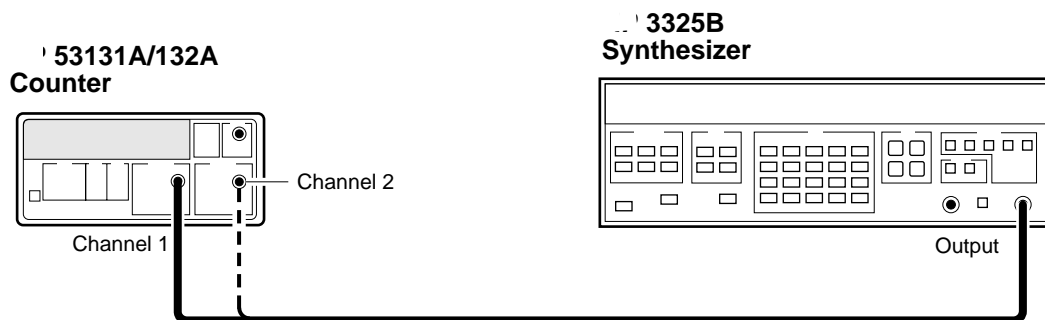

Figure 1-10. Peak Volts Test Setup
- 1 Connect the equipment as shown in Figure 1-10.